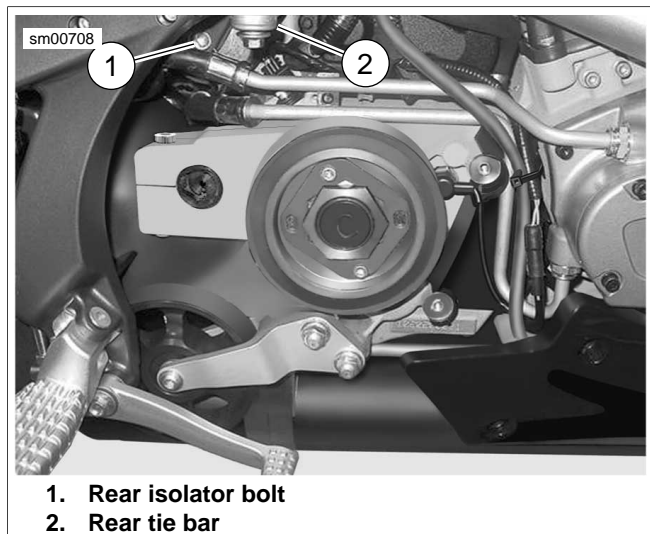

Figure 3-3. Rear Isolator Bolt and Rear Tie Bar (Typical)
21. Remove center tie bar (13) from engine.
22. See Figure 3-3. Remove rear tie bar (2) from frame only.